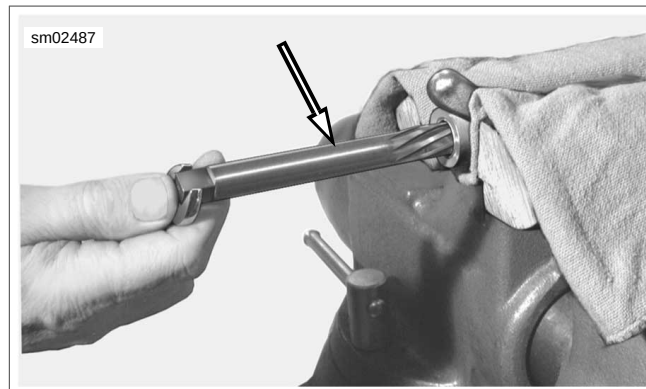

Figure 3-38. Ream Bushing
- a. See Figure 3-38. Lock rocker arm in a vise using brass jaw inserts or shop towels to prevent casting damage. Note that old bushing on drive side of reamer as pilot.